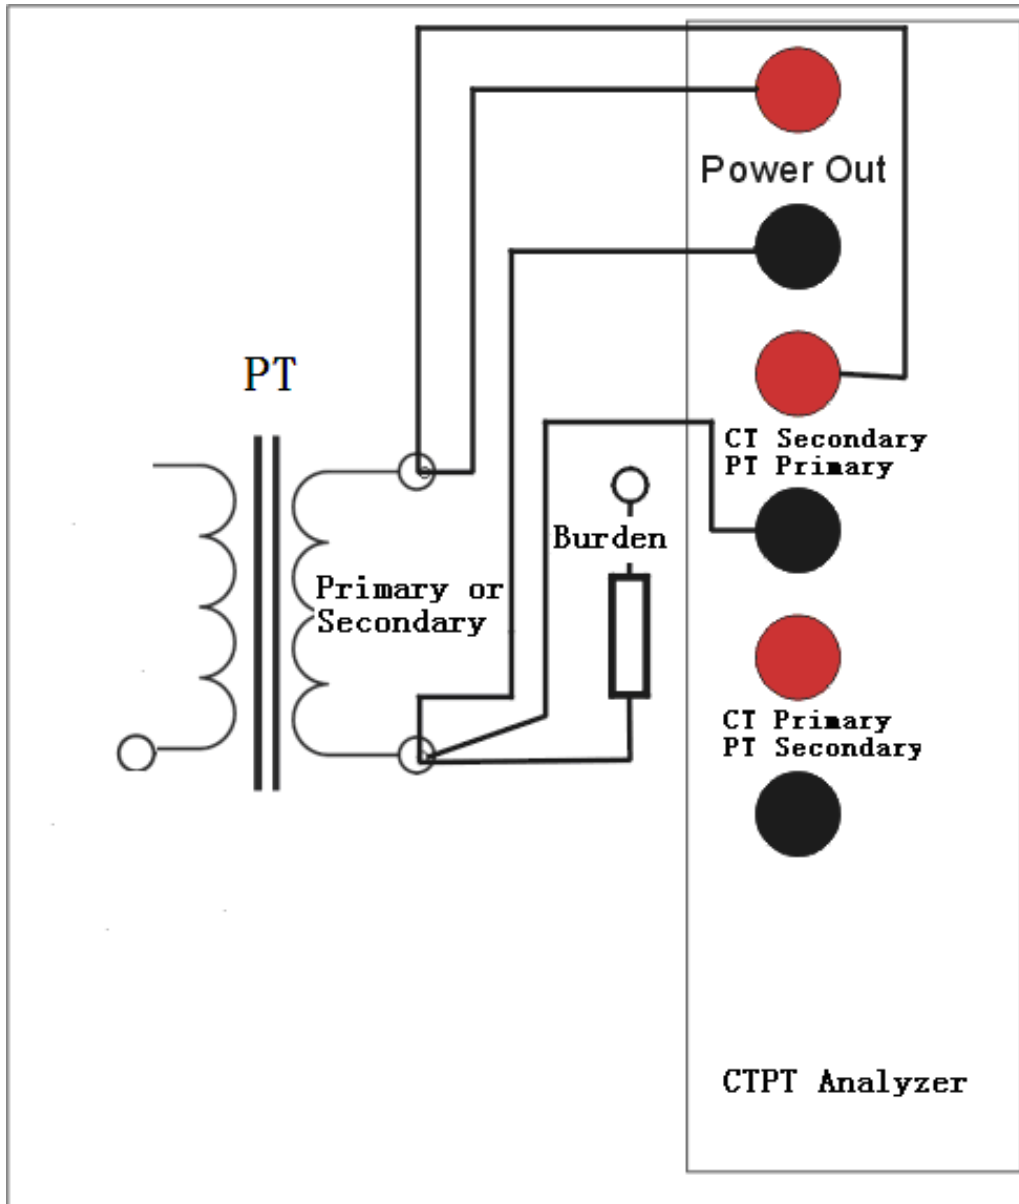

Figure 3.7 Winding resistance test connection
Please connect Analyzer and sample PT as figure 3.7 in PT winding resistance test.
- 1) Connect Analyzer grounding terminal to protection earth (PE).
- 2) Disconnect sample PT winding with loop as figure 3.7.